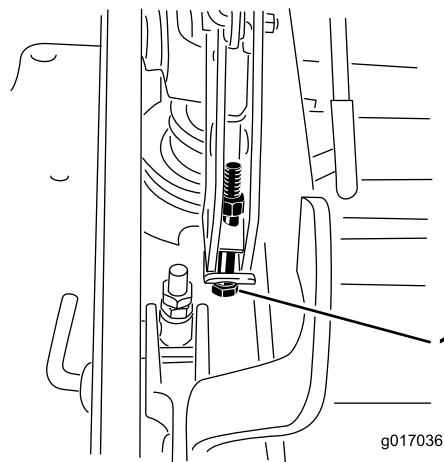

Figure 97
12. If the deck is too low, tighten the single-point adjustment bolt by rotating it clockwise. If the deck is too high, loosen the single-point adjustment bolt by rotating it counterclockwise (Figure 97).